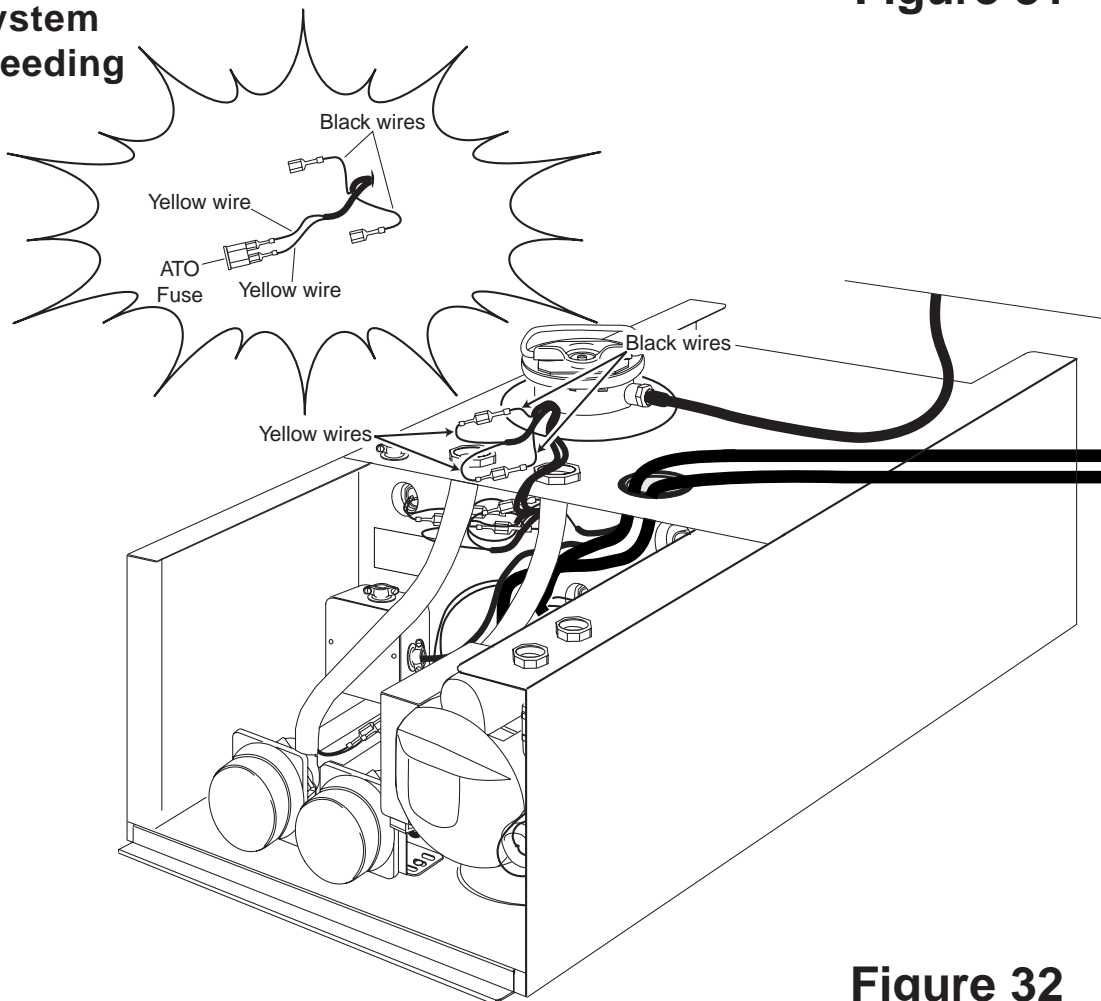

Figure 32
3. Locate and disconnect the two Yellow colored wires located inside the Access Cover Area, see Figure 32 for wire details.
4. Connect the two Yellow colored wires together by utilizing an ATO type automotive fuse, or similar, see Figure 32.
8. Remove the fuse, or similar, from the two Yellow wires and reconnect the wires back to their original wiring configuration, see Figure 32.